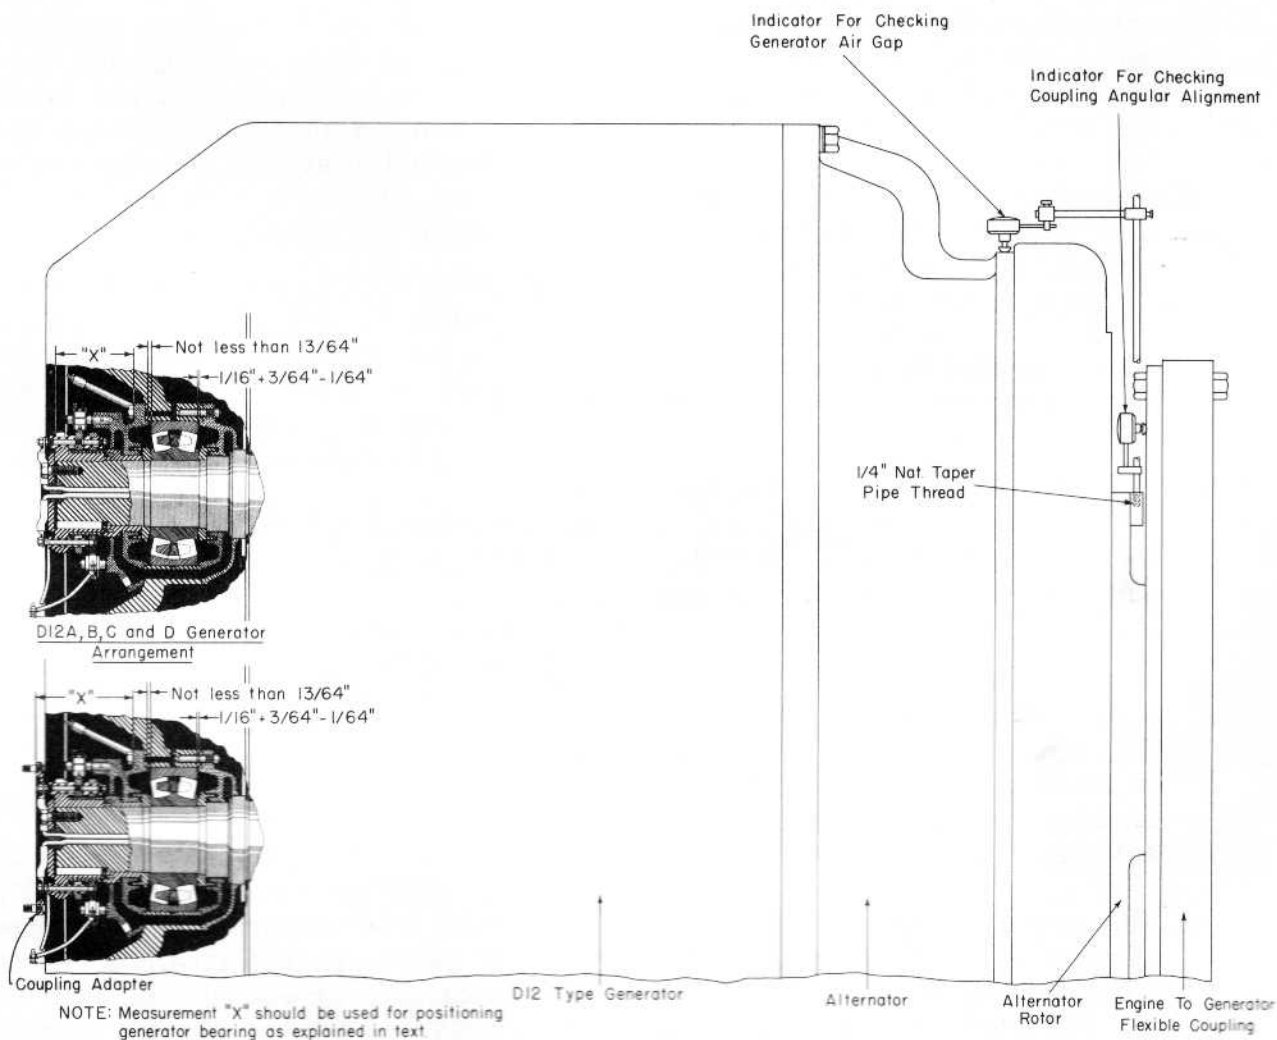

Fig. 17 - Generator Alignment Information Model D12A, B, C And D Generators
- b. The $1/16'' + 3/64'' - 1/64''$ bearing end clearance is determined by positioning the generator frame in respect to the armature, equal to a reference measurement "x," Fig. 17, plus the $1/16'' + 3/64'' - 1/64''$ clearance. Reference dimension "x" varies on different generators depending upon generator equipment. Dimension "x" is determined by moving the armature as far as possible toward the engine coupling end of the generator and measuring between reference points on the generator. This permits determination of the longitudinal position of the armature in respect to the generator frame at all times.
- (1) On D12 generators equipped with coupling adapter 8140426 the reference measurement "x," Fig. 17, is taken from the top right bolt spot face of the outer bearing cover to the outer end surface of the coupling adapter. Dimension "x" in this case is about $7-15/32''$ and is stamped in $1/2''$ numbers on top one of the horizontal ribs of the generator end bell. Thus to provide $1/16''$ clearance at the engine end of the bearing, the stator must be positioned so that a dimension at "x" equals $7-15/32'' + (1/16'' + 3/64'' - 1/64'')$. After obtaining this dimension tighten the generator base bolts.
- (2) On D12A, B, C and D generators which do not have a drive flange, a measurement dimension "x," Fig. 17, is taken from the top right bolt hole spot face of the outer bearing cover to the outer end surface of the slip ring hub assembly. In this
- b. Two dial type indicators, Fig. 17, are used to check alignment. The plunger of one indicator contacts the generator disc to indicate shaft angularity. The plunger of the second indicator rides the outside machined diameter of the alternator aluminum housing to indicate air gap. The indicators are mounted on supports attached to a rod having 1/4" pipe threads which is screwed into a tapped hole in the alternator spider. Both indicators will revolve together.